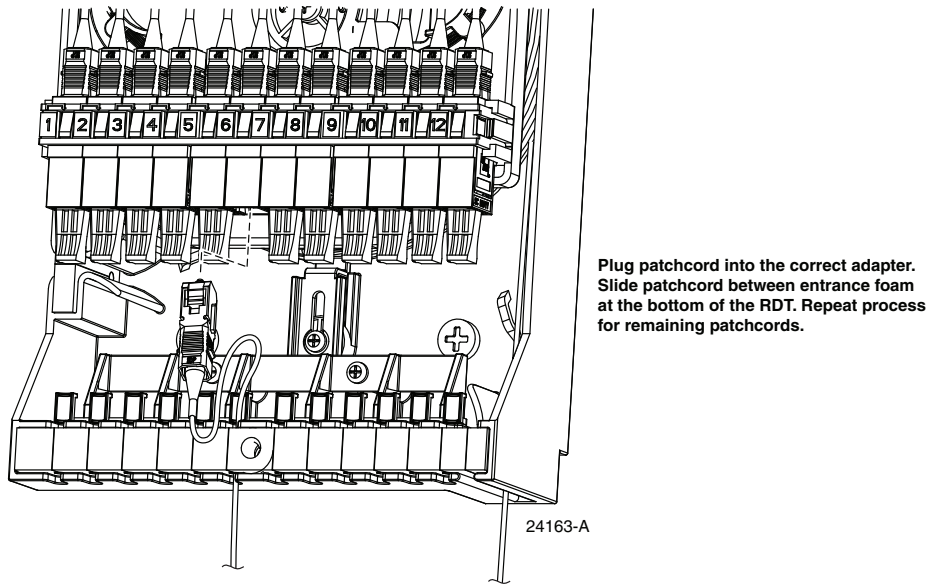

Figure 15. Terminating the Patchcords
2. Terminate the patchcords as shown in Figure 15.